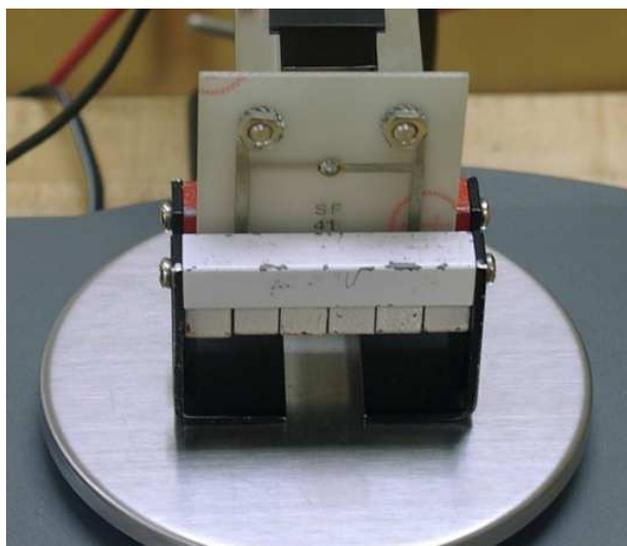

Figure 19.3: Wire Loop Arrangement
5. Consider the apparatus below. It represents a magnet sitting on the mass pan of a balance. Refer to Fig. 19.1 and Fig. 19.3 (*Step 3* of the experiment). Given the following setup, does the balance read heavier or lighter? Explain using the right-hand rule and Newton's Third Law. (20 pts)
2. Locate the magnet for the wire loops, B_1 (Fig. 19.3), and center the magnet on the balance pan. On the digital balance, there is a “Zero” button. Push this button once to “tare” the balance (zero it).
3. Lower the *balance arm* so the wire loop passes through the pole region of the magnet (*i.e.*, the horizontal section of the wire is *just below* the top edge of the magnet, Fig. 19.3). Note that this will result in the wire loop and the slot of the magnet being parallel.